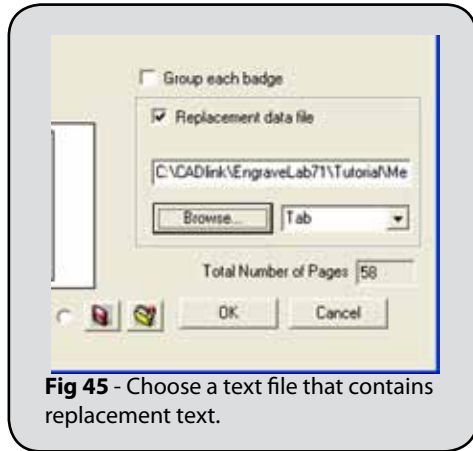

Fig 45 - Choose a text file that contains replacement text.
4. This example uses the “MemberStates.txt” file that is in the Vision Pro Tutorial directory. (Fig. 45)